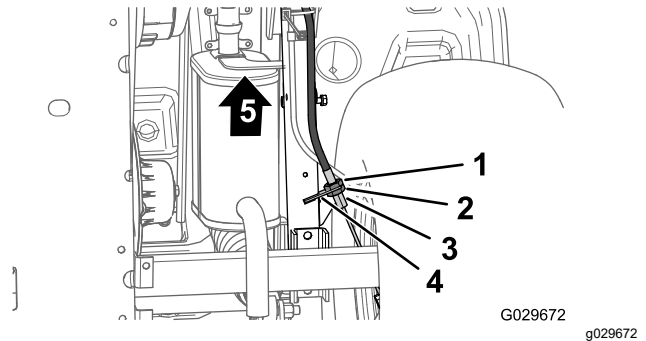

Figure 50
3. At the bottom of the machine, loosen the rear jam nut for the threaded adjuster of the parking-brake cable 4 turns (Figure 50).
4. Tighten the forward jam nut (Figure 50).
- A. Loosen the forward jam nut (Figure 50) for the threaded adjuster of the parking-brake cable 1 turn.
- B. Tighten the rear jam nut (Figure 50).
- A. Loosen the rear jam nut (**Figure 50**) for the threaded adjuster of the parking-brake cable 1 turn.
- B. Tighten the forward jam nut (**Figure 50**).